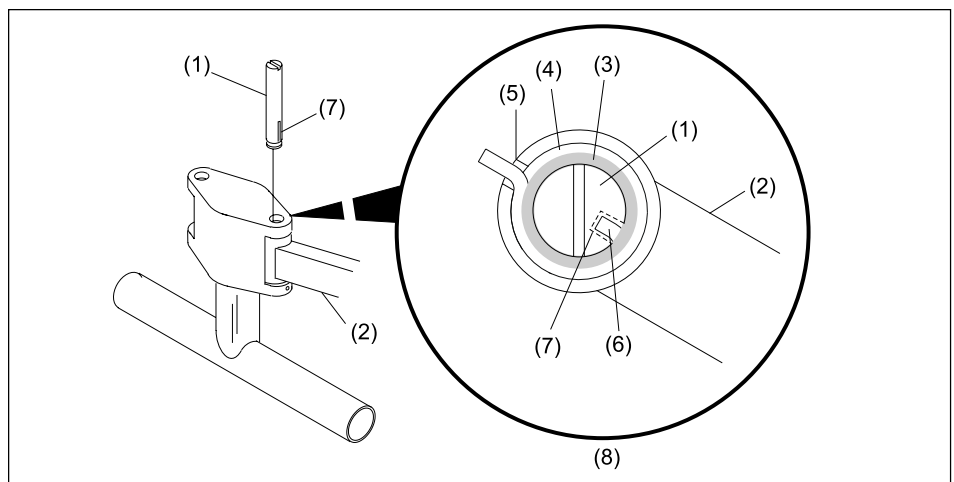

Figure 35. Align Inside End Tail of Spring with Pivot Shaft Slot
8. Insert assembled seat arm into table weldment and align slot of pivot shaft with inside end tail of spring. Push down on pivot shaft while rotating slightly to make sure that spring tail end inserts into slot of pivot shaft. Refer to *Figure 35*.